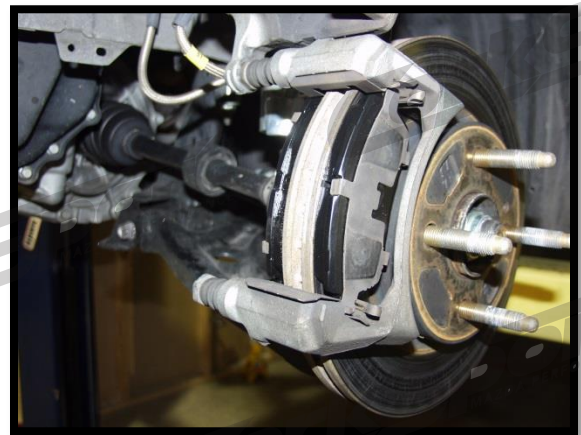

Figure 2c
- c) Place the new pads with backing shims back into the caliper bracket (Figure 2c).
- c) Place the new pads with backing shims back into the caliper bracket with the rough pad material facing the rotor (Figure 2c).